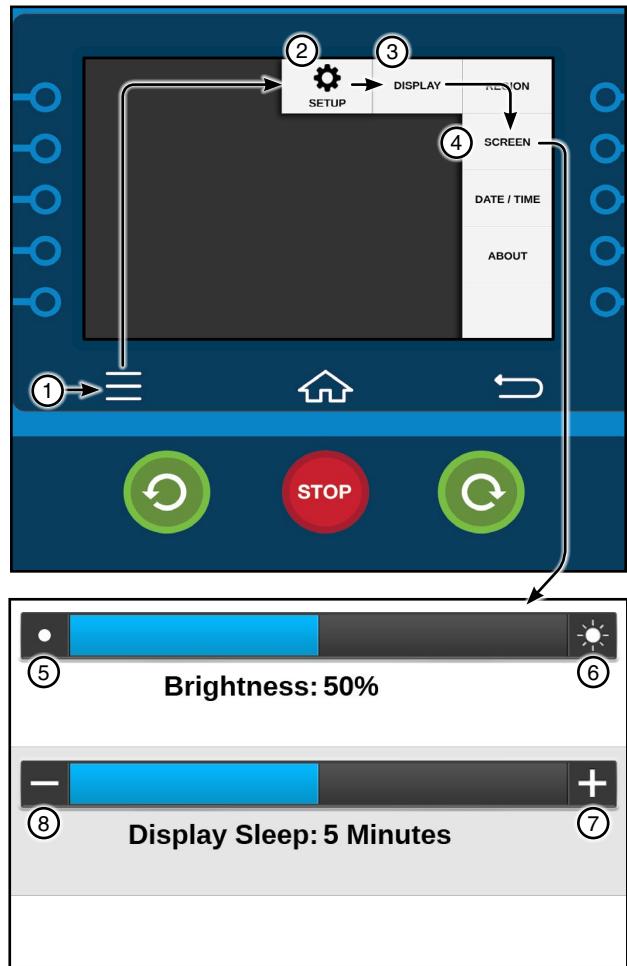

Figure 32-1 1. Menu 2. Setup 3. Display 4. Screen 5. Darker 6. Lighter 7. + Increase 8. - Decrease
- 5. Use Screen to adjust the Screen Brightness and Display Sleep delay timer. See Figure 32-1.